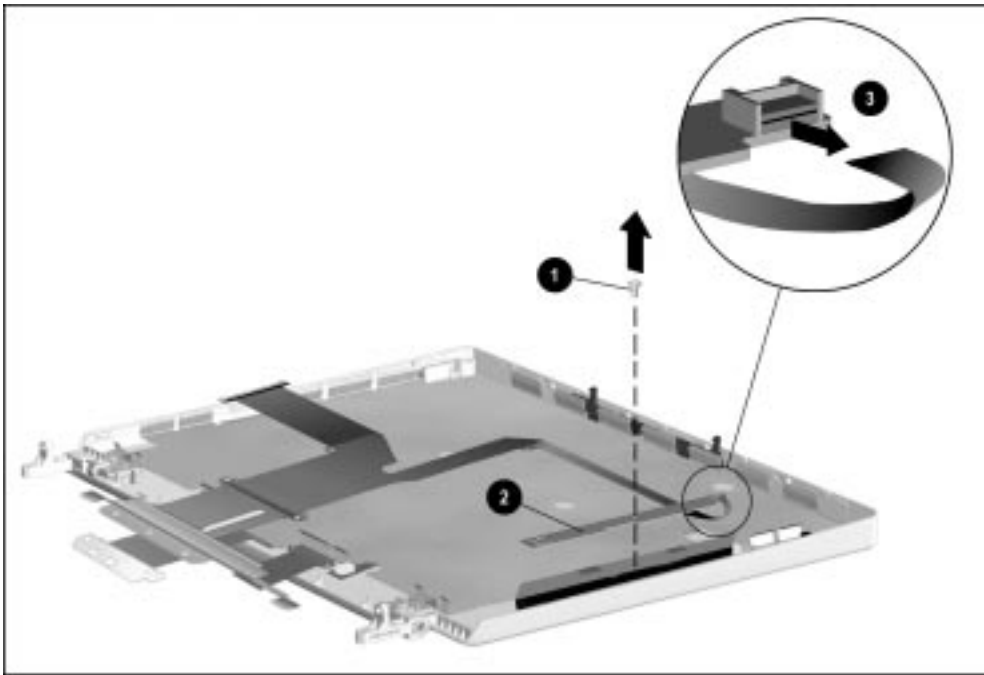

Figure 5-68. *Removing the Inverter*
9. Remove the screw ❶ that secures the inverter to the display enclosure (Figure 5-68).
10. Lift the inverter ❷ out of the display enclosure. Disconnect the display video cable from the inverter ❸.